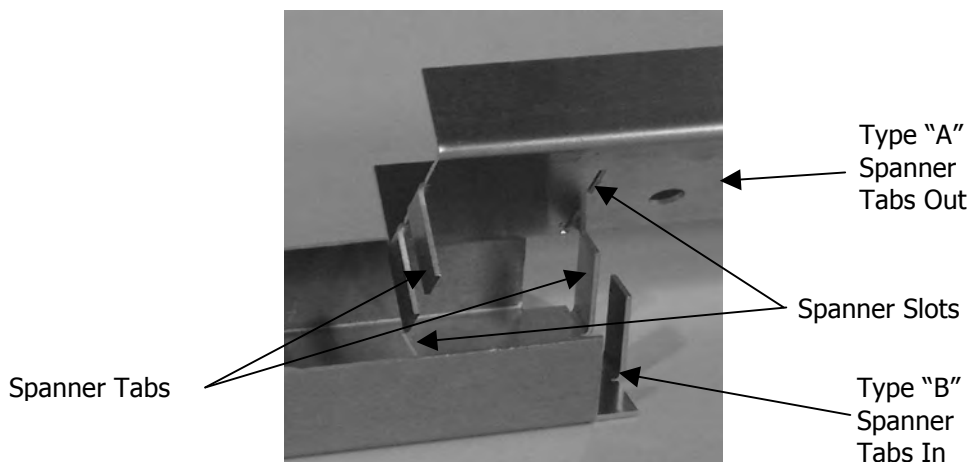

Figure 2: Spanner Tabs and Slots
5. Assemble together two spanner rails using one Type A (tabs out) and one Type B (tabs in) spanner for each side. Adjust the rail ends to a pre-measured dimension that matches the width of the ceiling tiles on the job site. Then insert spanner rail tabs into the closest slots of the adjacent rail. See Figure 2.